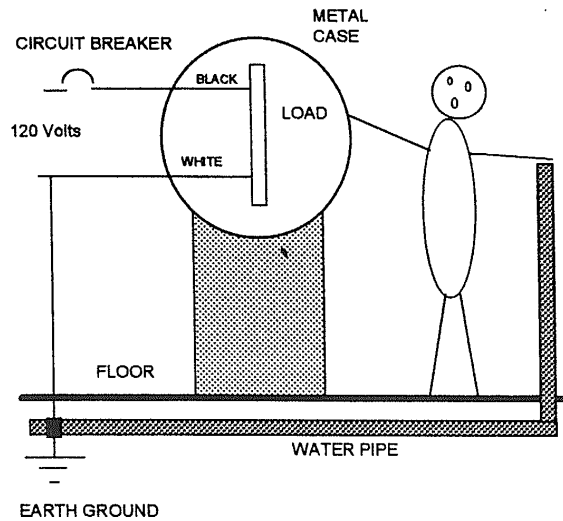

Figure B.2: Possible electrocution scenario.
**Why have a separate ground and a neutral wire?** Suppose we had the scenario shown in Figure B.2, in which an electrical load is only supplied by two wires, and the supply voltage is grounded at the source. The ungrounded “hot” wire is colored black and the grounded return